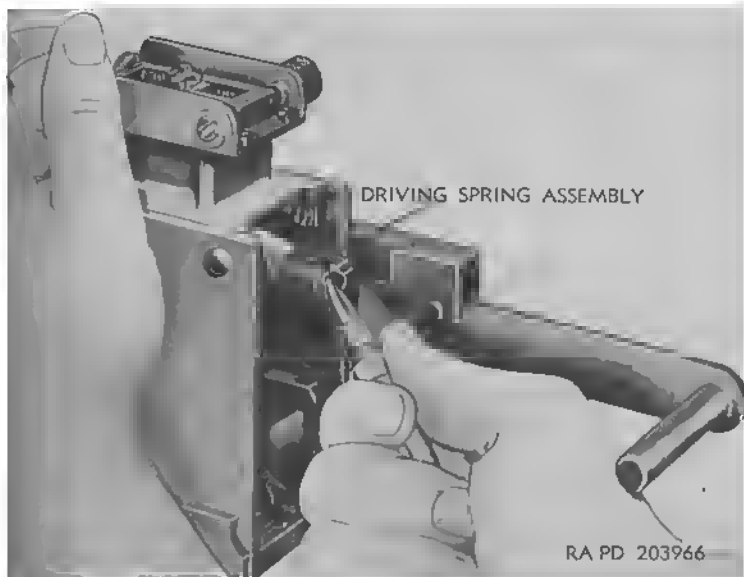

Figure 34. Removal of driving spring assembly.
a. To remove the driving spring assembly (fig. 34) use a cartridge, engaging the cartridge nose in the recessed end of the driving spring assembly. Push fully forward and to the left until the driving spring rod head is free of its slot in the right side plate assembly. It is then free to be withdrawn from the weapon.